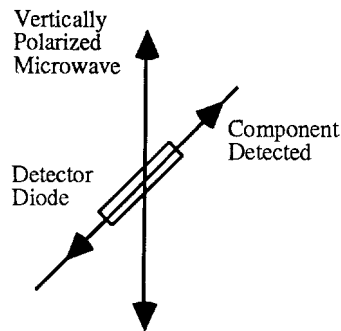

Figure 7: Detecting Polarized Radiation
an angle θ to the Transmitter diode, as shown in figure 7, it would only detect the component of the incident electric field that was aligned along its axis. In this experiment you will investigate the phenomenon of polarization and discover how a polarizer can be used to alter the polarization of microwave radiation.
1. If the meter reading of the Receiver (M) were directly proportional to the component of the electric field (E) along its axis, then the meter reading would be given by the relationship $M = M_0 \cos\theta$, where θ is the angle between the detector and Transmitter diodes and M_0 is the meter reading when $\theta = 0$ (see figure 7). Graph your data from step 3 of the experiment. On the same graph, plot the relationship $M_0 \cos\theta$. Compare the two graphs.